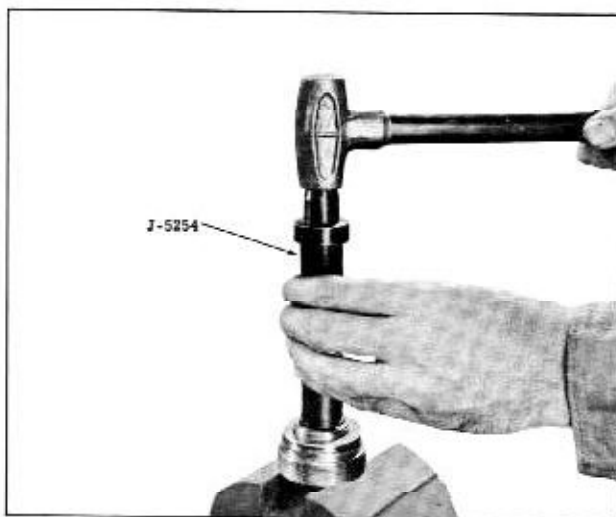

Fig. 4-47 Seal and Bearing Removal
3. If the needle bearing is to be replaced, remove the retaining ring using internal pliers, then drive the dust seal, seal and bearing from the adjuster plug with Tool J-5254. (Fig. 4-47) Discard seal and bearing.